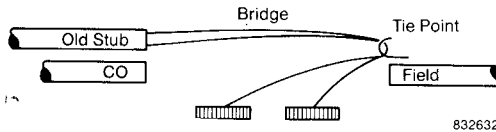

Fig. 103—Move PIC stub.
- b. Move the old PIC Stub aside, cutting tie points. See Figure 103.